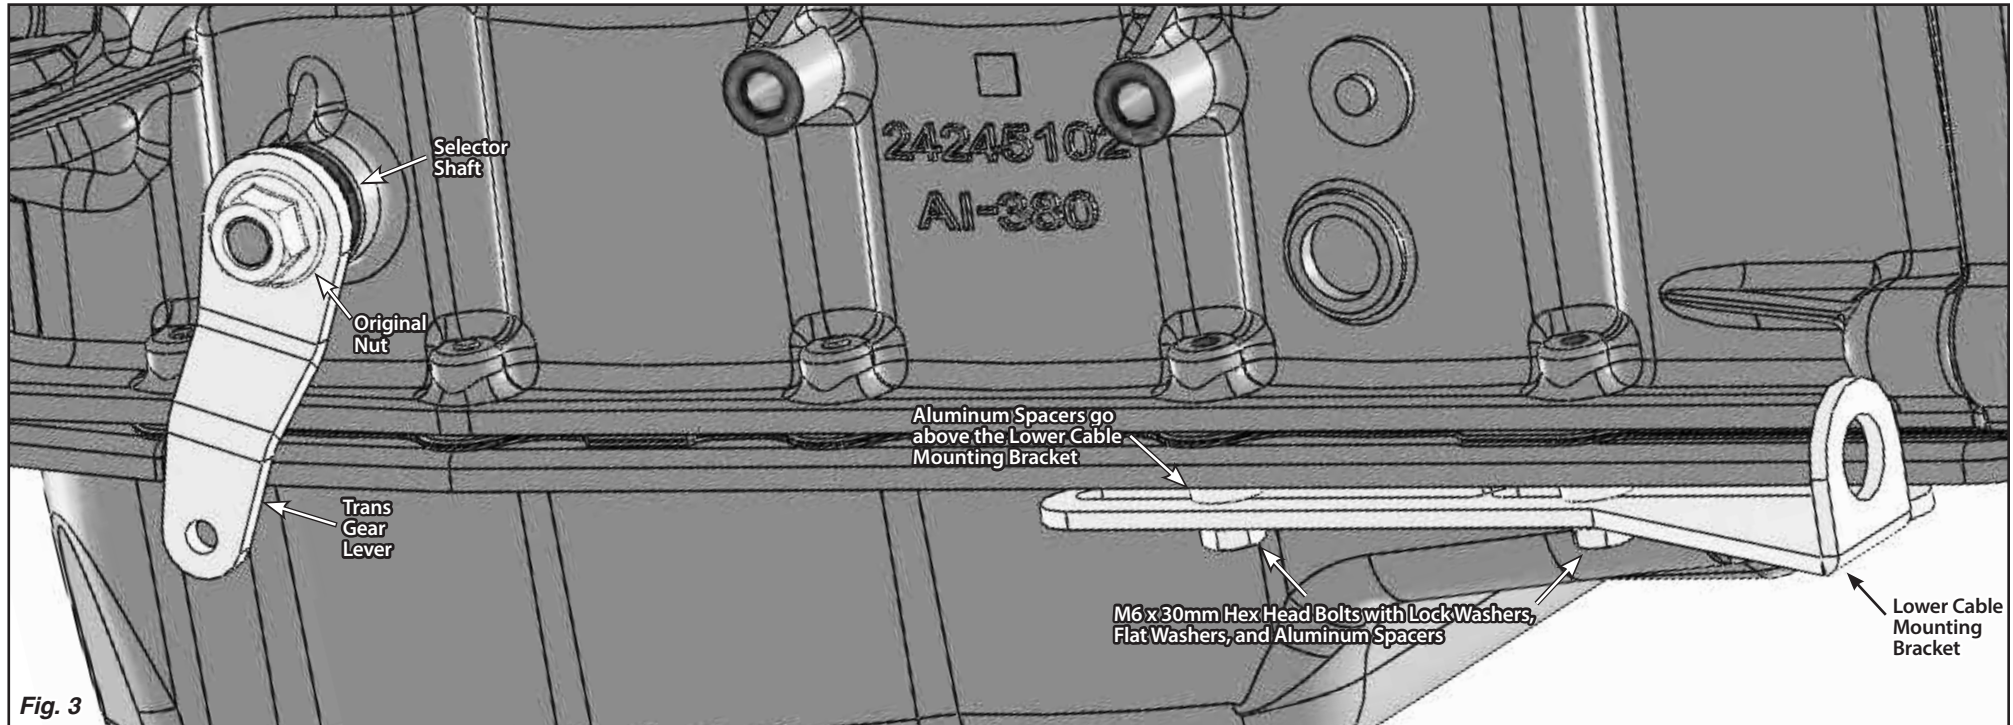

Fig. 3
Step 8: Make sure the transmission is in Park by rotating the original trans gear lever clockwise as far as it will go. Remove the original trans gear lever from the transmission selector shaft. Install the new trans gear lever onto the selector shaft, pointed down and towards the front. Re-use the original nut to secure the trans gear lever. **Fig. 3**
Step 9: Remove the lower cable mounting bracket from the cable. Install the lower cable mounting bracket on the left side of the transmission pan, with the cable mounting hole towards the rear of the transmission, using the provided M6-1.0 x 30mm hex head bolts, lock washers, flat washers, and aluminum spacers. **NOTE:** If the transmission has an aluminum pan, the aluminum spacers may not be necessary. **Fig. 3**